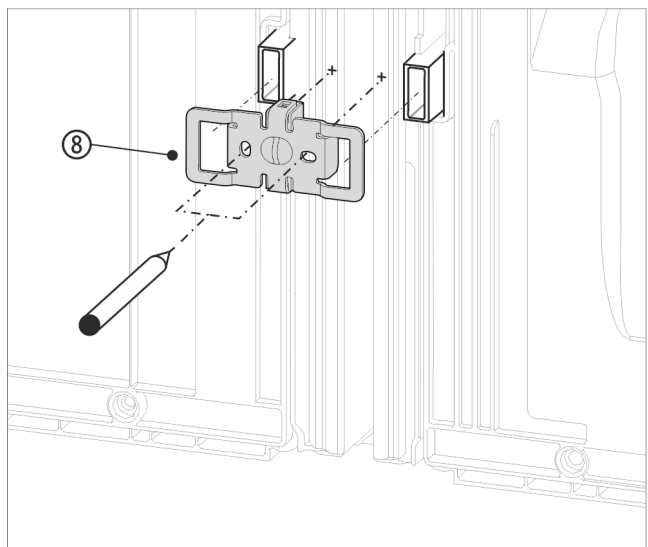

Fig. 16 Example illustration
- Slide the bracket Fig. 16 (8) with the slots over the retainer for the wall spacers.